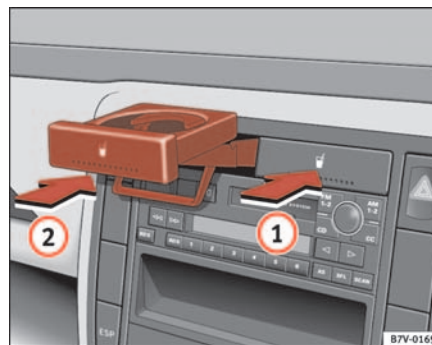

Fig. 106 Cup holders in the centre console
- Push the cup holder up in the direction of the arrow ⇒ **fig. 106** until it engages.